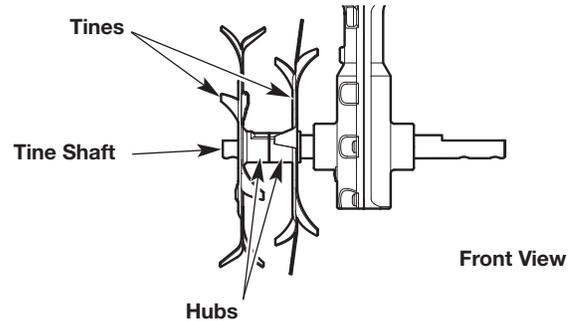
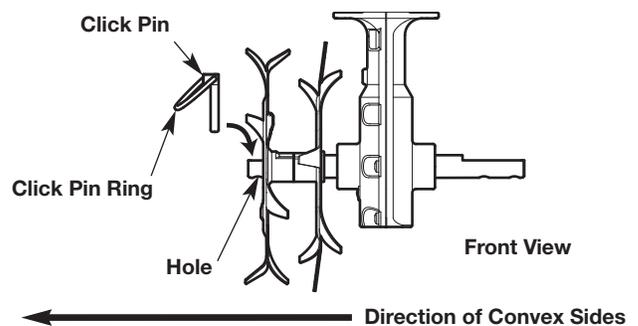

Fig. 9
Fig. 10
1. Remove the click pin from the end of each tine shaft (Fig. 10). Slide the tines off of the tine shafts. (Fig. 9).
2. Slide two new tines onto one of the tine shafts. The hubs must face toward each other (Fig. 9).
NOTE: Each tine has a convex side. Make sure that the convex sides are facing as shown (Fig. 10).
3. Insert a click pin through the hole at the end of the tine shaft (Fig. 10). Push the click pin ring toward the tines until it clicks into place.